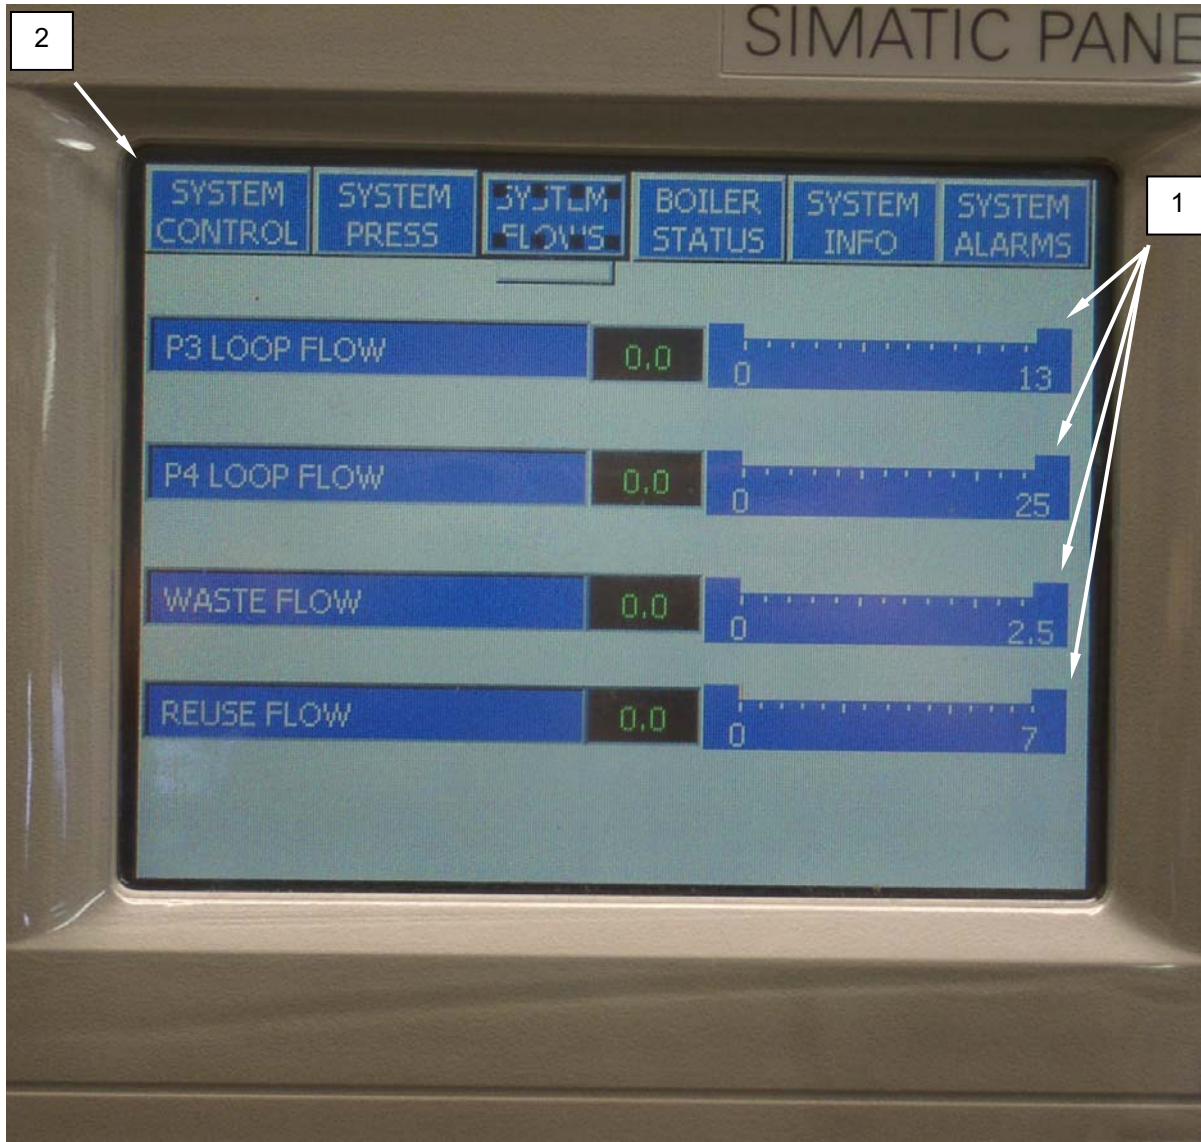

Figure 17. System Flows Display.
The PLC will show the display in Figure 17. The bar graphs (**Figure 17, Item 1**) indicate the flow in various system loops. The PLC will regulate the flow of each water loop to a preset value by monitoring the flow and sending a control signal to the corresponding actuator. The automatic adjusting of the valve actuator will maintain flow within normal operating limits and will display green. The PLC will notify the operator with flow alarm if insufficient flow is present, and display will be RED. See alarm section for further details.
2. Press System Control (**Figure 17, Item 2**) to return to the System Control menu.